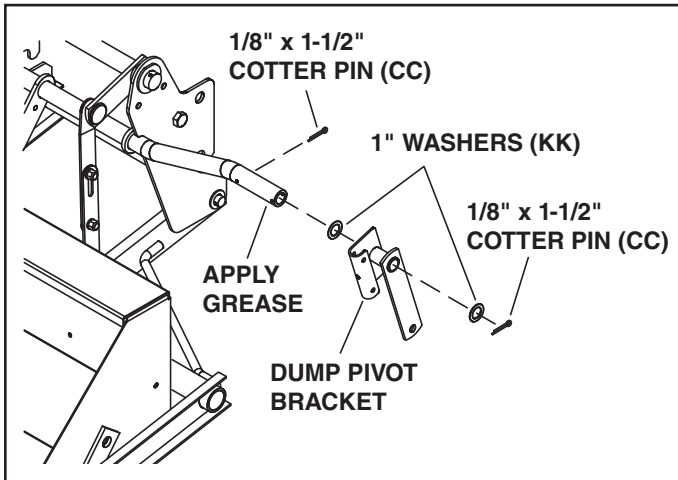

FIGURE 8
STEP 9: INSTALL DUMP PIVOT BRACKET (SEE FIGURE 8)
- Install a 1/8" x 1-1/2" cotter pin (CC) to the inside hole in the shaft shown in figure 8, and then install a 1" washer (LL) onto the shaft. Apply grease to the end of the shaft and install the dump pivot bracket assembly onto the shaft. Install a 1" washer (KK) onto the shaft and secure it using a 1/8" x 1-1/2" cotter pin (CC).